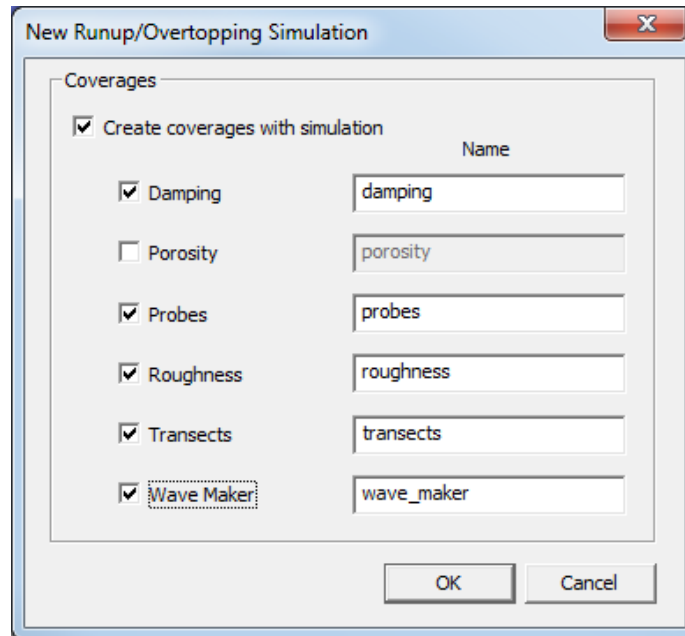

Figure 3 New Runup/Overtopping Simulation dialog
1. Right-click in the Project Explorer and select *New Simulation* | **BOUSS Runup/Overtopping** to bring up the *New Runup/Overtopping Simulation* dialog (Figure 3). This dialog controls which coverages will be created.
3. Toggle on all options except *Porosity* (see Figure 3). Leave the default name for each option.